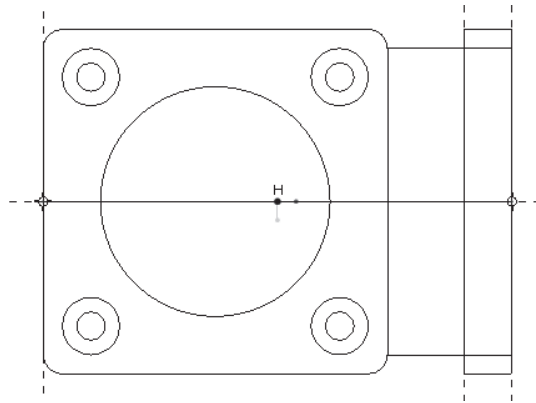

Figure 11-52 The Sketch for the section line with the constraint
- e. Generate the isometric sectioned view. The section will be defined by drawing a line on the **TOP** datum plane, refer to Figures 11-52 and 11-53.
11. Choose the **Sketch > Line > Line** from the menu bar and draw the line, as shown in Figure 11-52. This line creates a section plane.